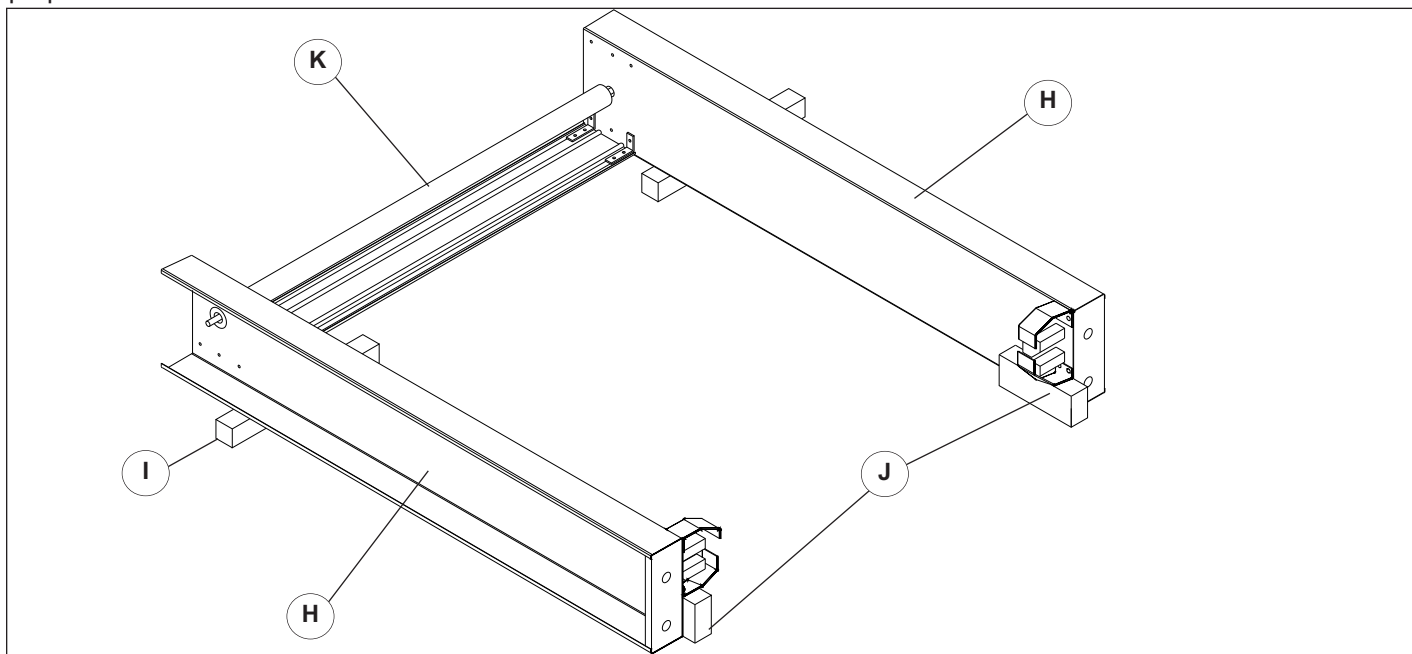

Figure 5.2
Determine the drive sideframe by locating the integral control station and photoeyes inside of it, unless the optional control box is selected. Place the sideframes (H) on blocks (I) in front of the opening, with the top of the sideframe toward the opening and the back of the sideframe facing the floor, **Figure 5.2**. An additional block may need to be placed under the guards (J) at the bottom of the sideframe to prevent sideframes from tipping over.